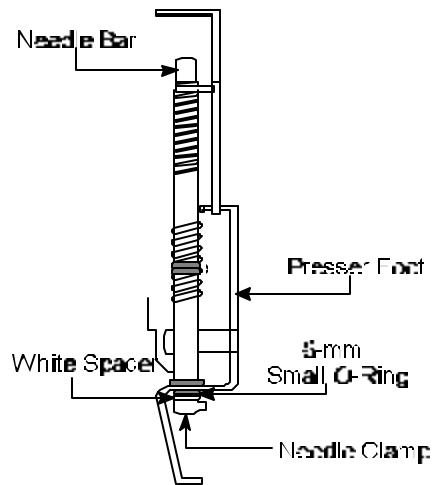

Figure 2
8. **Squeeze** and **hold** Needle Bar and Presser Foot together and **remove** needle clamp, white spacer and 6 mm O-ring. *See Figure 2.*